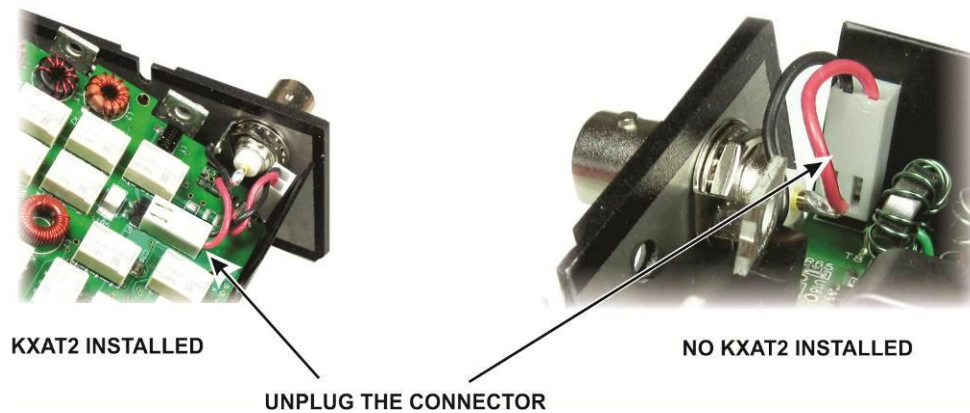

Figure 3. Unplugging the Antenna Connector.
- ☐ Unplug the BNC connector to free the end plate as shown in Figure 3.